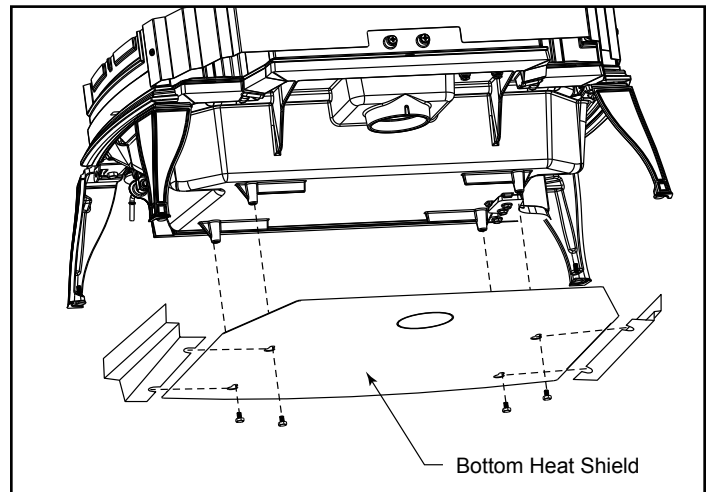

Fig. 22 - Attach the bottom heat shield.
3. Pass all four bolts through the large end of the keyholes and then pulling the shield forward to engage the smaller ends of the keyhole slots. (Fig. 22)